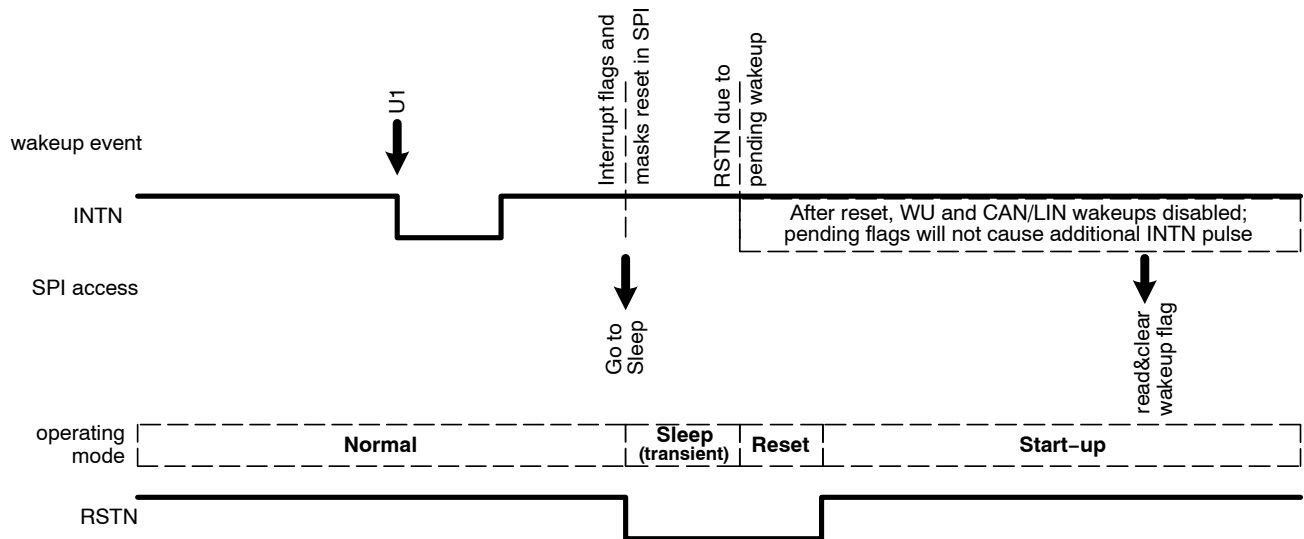

Figure 19. Attempted Transition to Sleep Mode with a Pending Wakeup Flag
- If Sleep mode is requested while a wakeup flag is pending, the chip immediately performs a “wakeup from Sleep” mode sequence – see Figure 19. In this way, the information on the pending wakeup is not missed by the application.